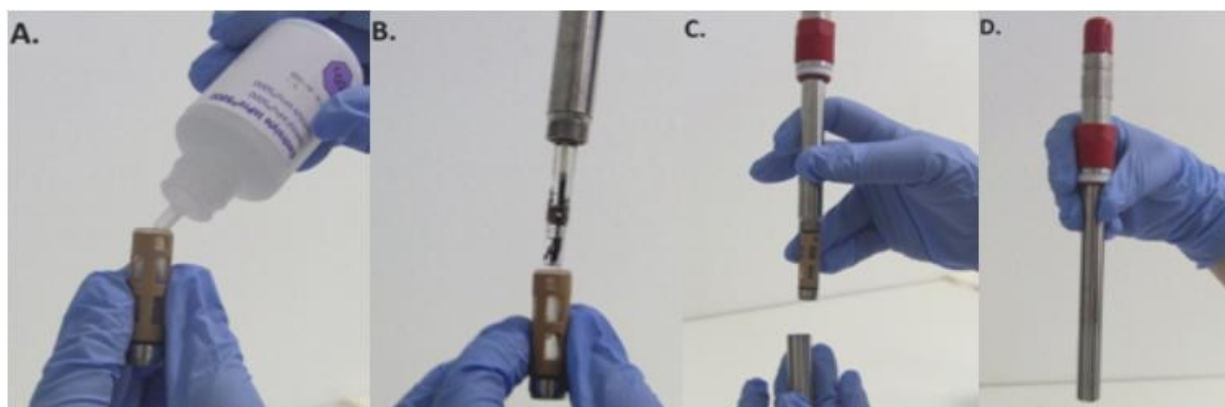

Fig. 24: Assembly of the CO₂ electrode
- Assemble the electrode according to the manual provided by the electrode manufacturer. Individual steps of the assembly are schematically shown in Fig. 24.